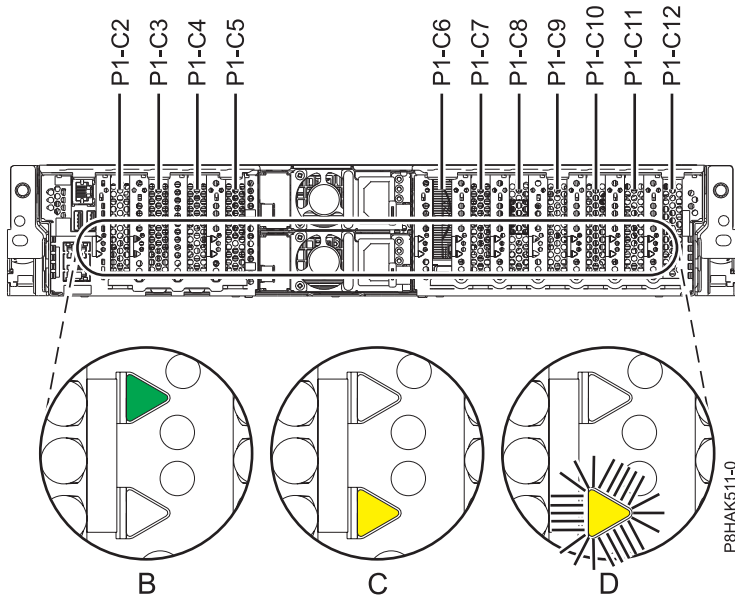

Figure 14. PCIe adapter slot locations and locations of the LEDs in the 5148-21L, 5148-22L, 8247-21L, 8247-22L, 8284-21A, or 8284-22A system
If you are servicing a failed PCIe adapter, look for the flashing amber LED for the failed PCIe adapter that you set to flash in the step to identify the failed part. See Figure 14 on page 25 that shows the state of the LEDs. Note that the amber LED for the failed PCIe adapter is **Flashing**, as shown in (D) in Figure 14 on page 25.
Attention: If the PCIe adapter is operating correctly then the Activity LED is **ON** (green) and the Error amber LED is **OFF**, as shown in (B) in Figure 14 on page 25. Do not attempt to remove the working PCIe adapter.